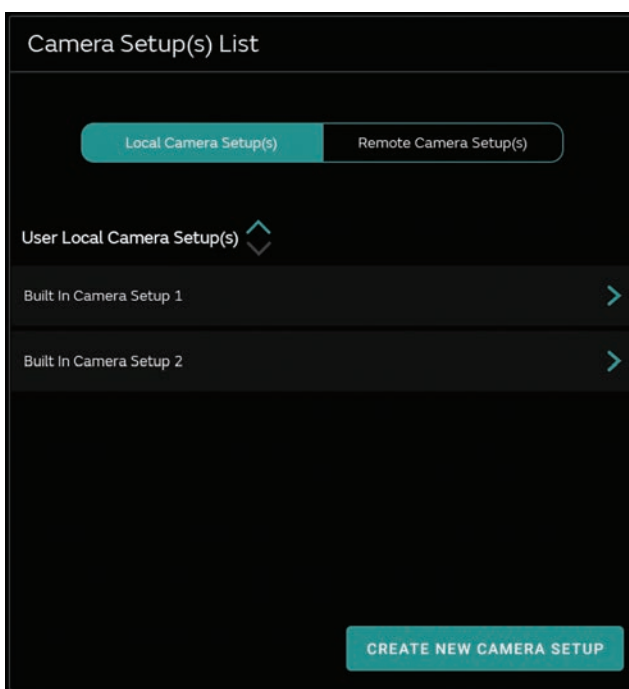

Figure 23. Camera Setup(s) List
Contains a list of the Local Camera Setup(s), when offline, (Figure 23) and contains a list of Remote Camera Setup(s) when connected to a visualization system.
3. Tap one of the **Built-In Camera Setup(s)** (Figure 23).